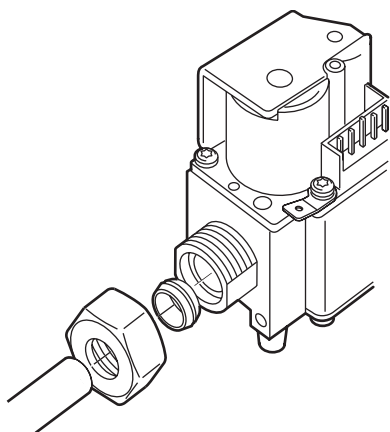

Fig. 5. External thread connection with nut and olive
- ③ With $\frac{3}{4}$ " nut and olive (fig. 5)